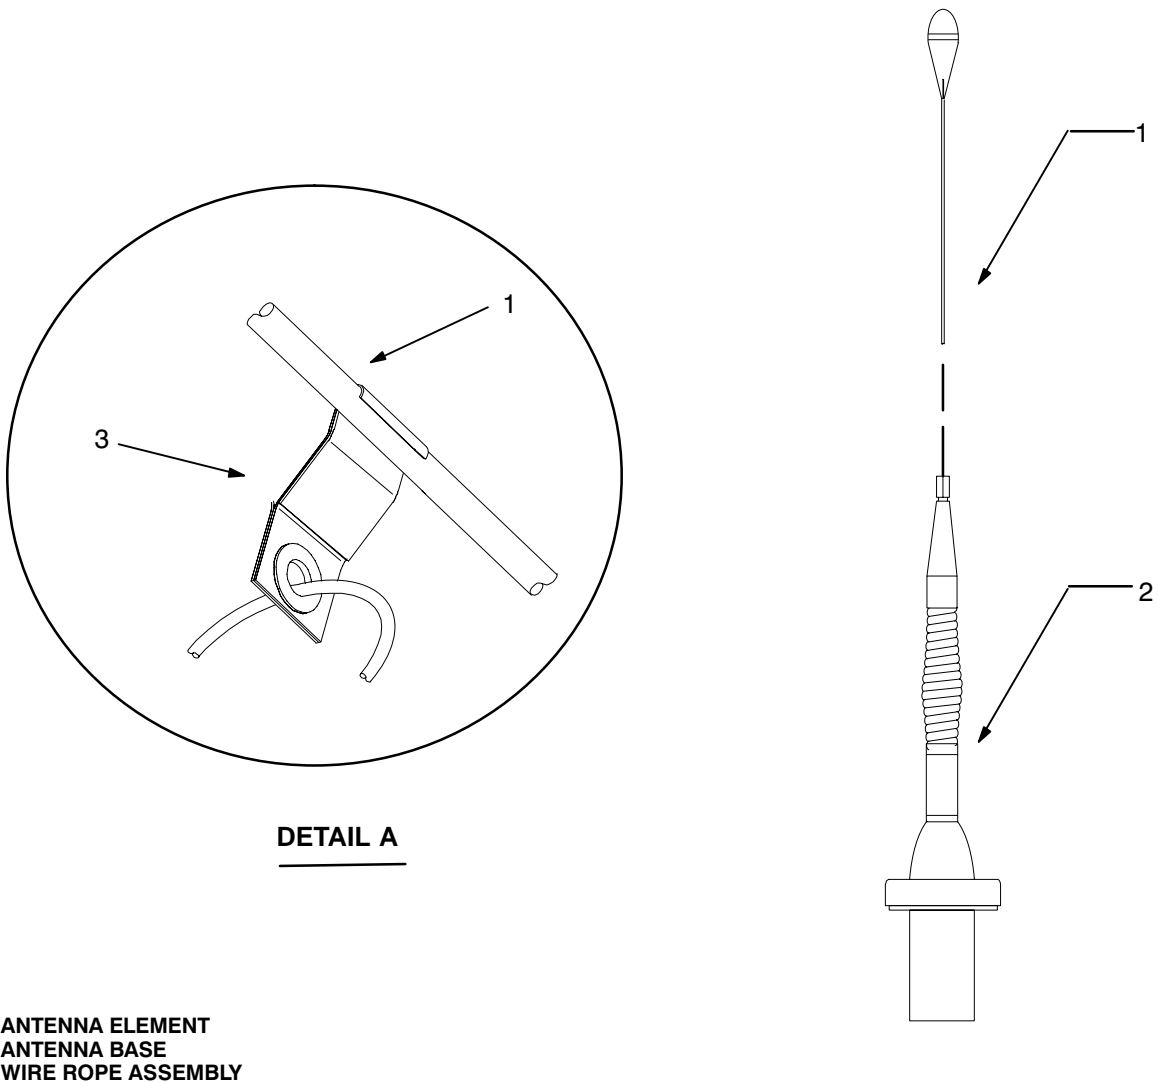

Figure 5-3. Top Antenna Assembly Installation
a. Antenna element (1).	Apply silicone compound to element threads and assemble. See figure 5-3.
b. Wire rope assembly (3).	Attach clip to antenna element (1). Tie rope to vehicle to position antenna in desired location. See Figure 5-3, Detail A.